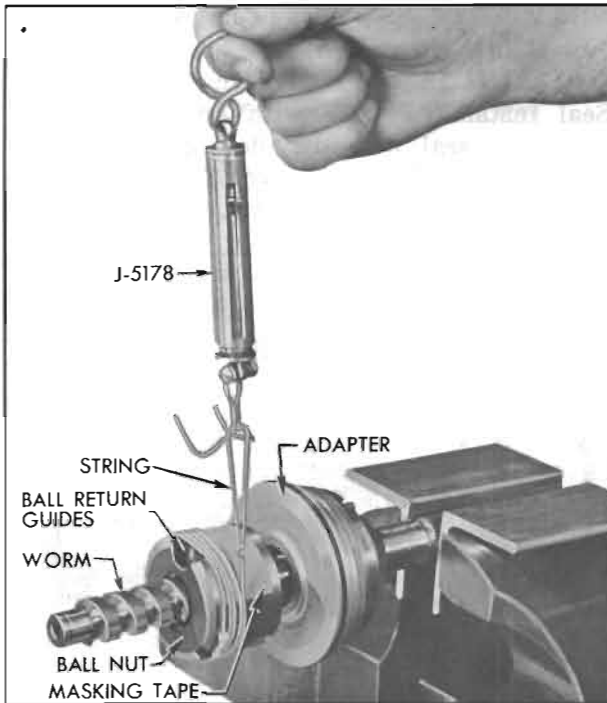

Figure 8-31—Checking High Point Preload
5. Push guide into guide holes of the ball nut. If the guide does not push down easily, tap it lightly with a soft mallet to seat it. Wrap a strip of tape around the ball nut and guide to prevent the guide from falling out. See Figure 8-31.
the next smaller ball size and recheck. See Figure 8-31.